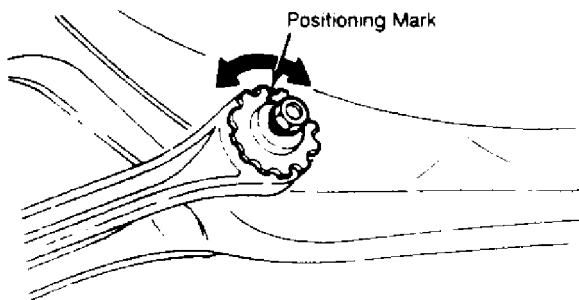

Fig. 2: 626 Star Wheel Adjustment
- 2) Turn spacer (star wheel) to make the points from rear of tire to center of crossmember equal. See Fig. 2. Turn both right and left spacers the same amount to adjust toe-in.